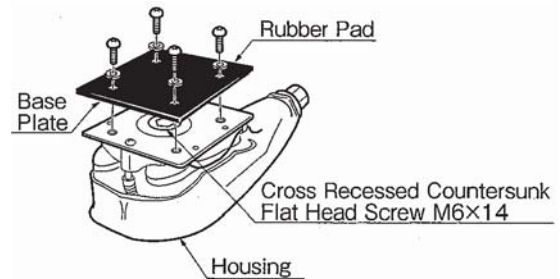

Fig. 10
1) Loosen 4 screws (Cross Recessed Pan Head Screw with Spring Lock Washer M4 x 8) and remove the Rubber Pad. (Fig.10)
2) Loosen Cross Recessed Countersunk Flat Head Screw M6 x 14 of the Base Plate and remove the Base Plate from the End Plate. (Fig.10)